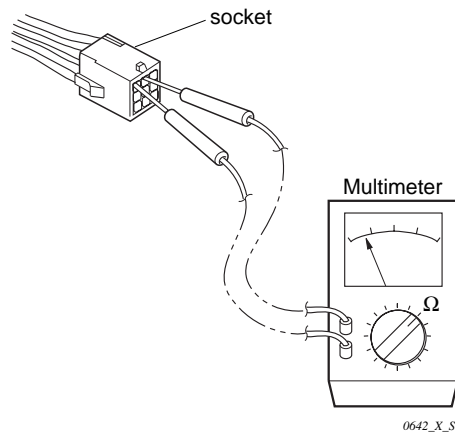

Fig. 29
- Then check continuity among plug's (and/or socket's) terminal as in **Fig. 29**.